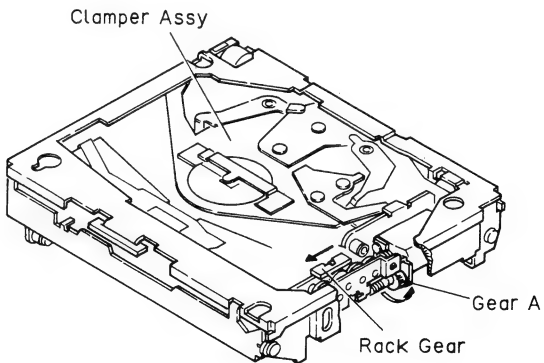

Fig. 11
- 1. Turn the gear A manually in the arrow direction. (Fig. 11)
- 2. Press the rack gear in the arrow direction and engage gears. (Fig. 11)
- 3. Put into the play mode. (The clamber assembly is at low position.) (Fig. 11)